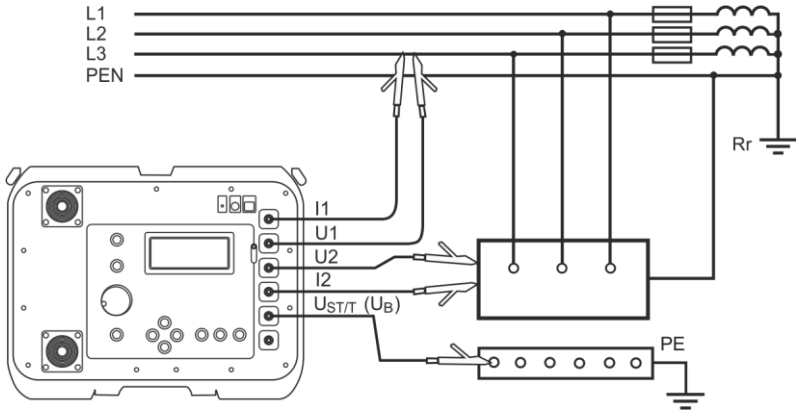
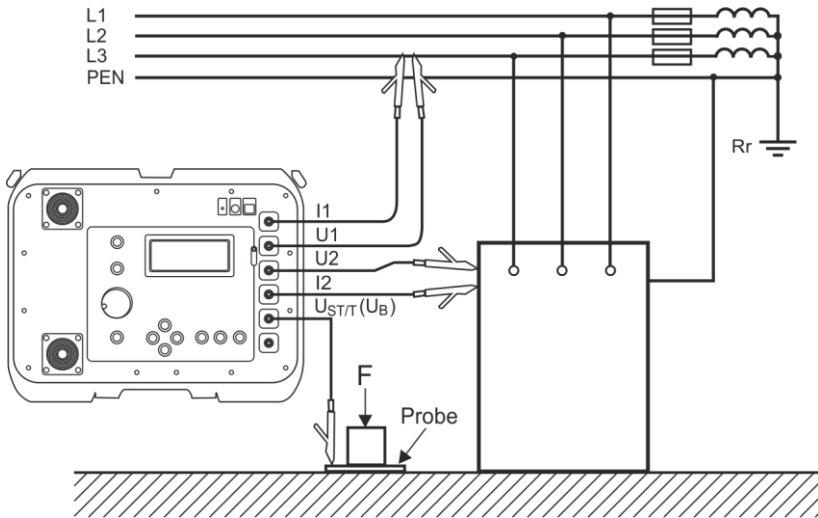

Fig. 14 Measurement of touch voltage U_{ST}
Fig. 15 Measurement of shock voltage U_T
- connect test leads according to Fig. 14 or Fig. 15:
The measurement of touch shock voltage U_T is performed after introducing an additional resistor (inside the device) of 1 k Ω between the terminals U_2 and $U_{ST/T} (U_B)$. The resistor simulates resistance of the human body, while the terminal $U_{ST/T} (U_B)$ is to be connected to the probe that simulates human feet located on the ground (Fig. 15), whose properties and load are described by relevant standards.